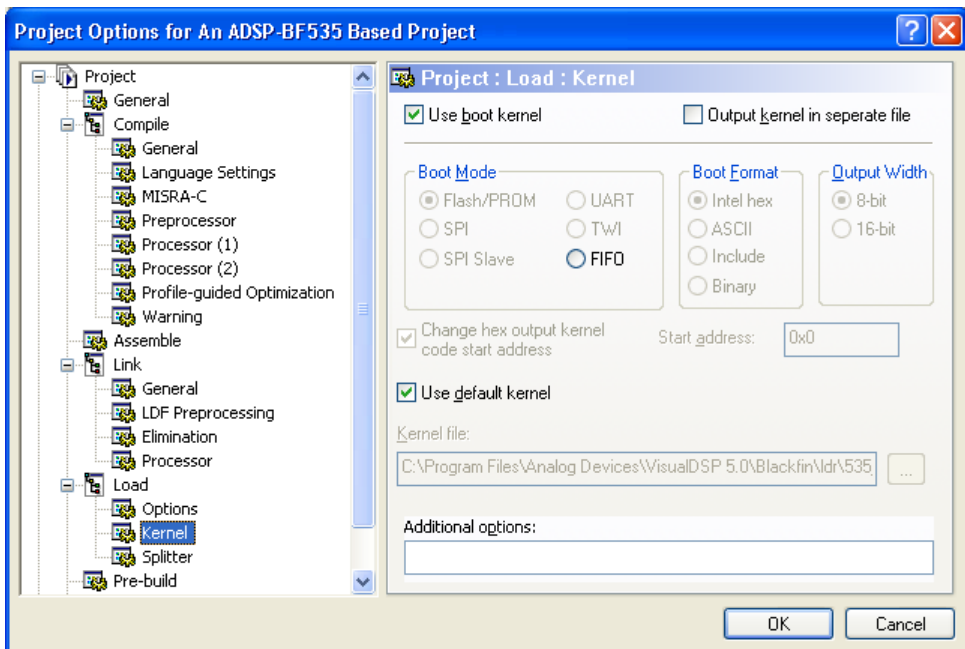

Figure 3-30. Project: Load: Kernel Page for ADSP-BF535 Processors
Unless you develop an application for the ADSP-BF535 processor, most of the options on the **Kernel** page are grayed out. Figure 3-30 shows a sample **Kernel** page with options set for an ADSP-BF535 Blackfin processor.
2. Select **Kernel** (under **Load**) to set up the second-stage loader options (Figure 3-30).